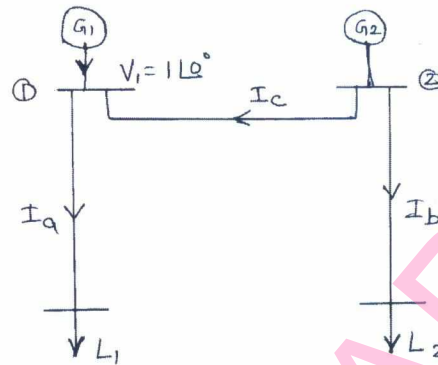

Fig.Q6(b)
- b. Compute the loss coefficients for the network shown in Fig. Q6(b), using the given data :